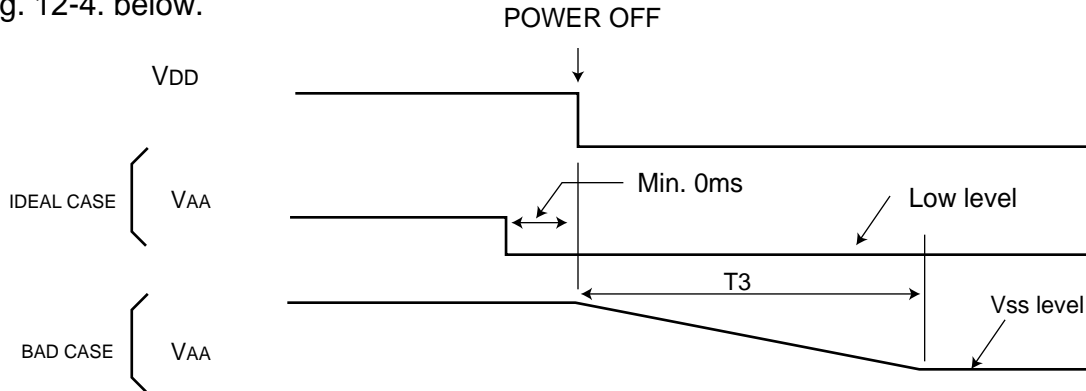

Fig. 12-4
- T3 : A time from power has been turned OFF to liquid crystal driving voltage returns to Vss level. (See Fig. 12-4 later.)
When V_{AA} return to V_{ss} level behind V_{DD} after the main power has been turned OFF since the drive circuit of LCD module is stopping its logic operation at the point of time of power OFF, it might result in DC voltage being applied to LCD panel in a period of T_3 shown Fig. 12-4. below.